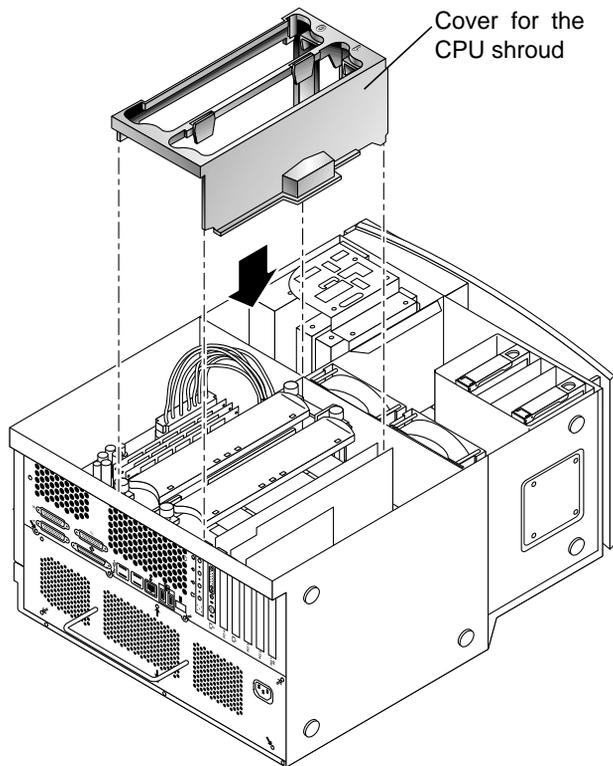

FIGURE 15 Installing the Cover for the Shroud
9. If necessary install the cover for the CPU shroud (see FIGURE 15).